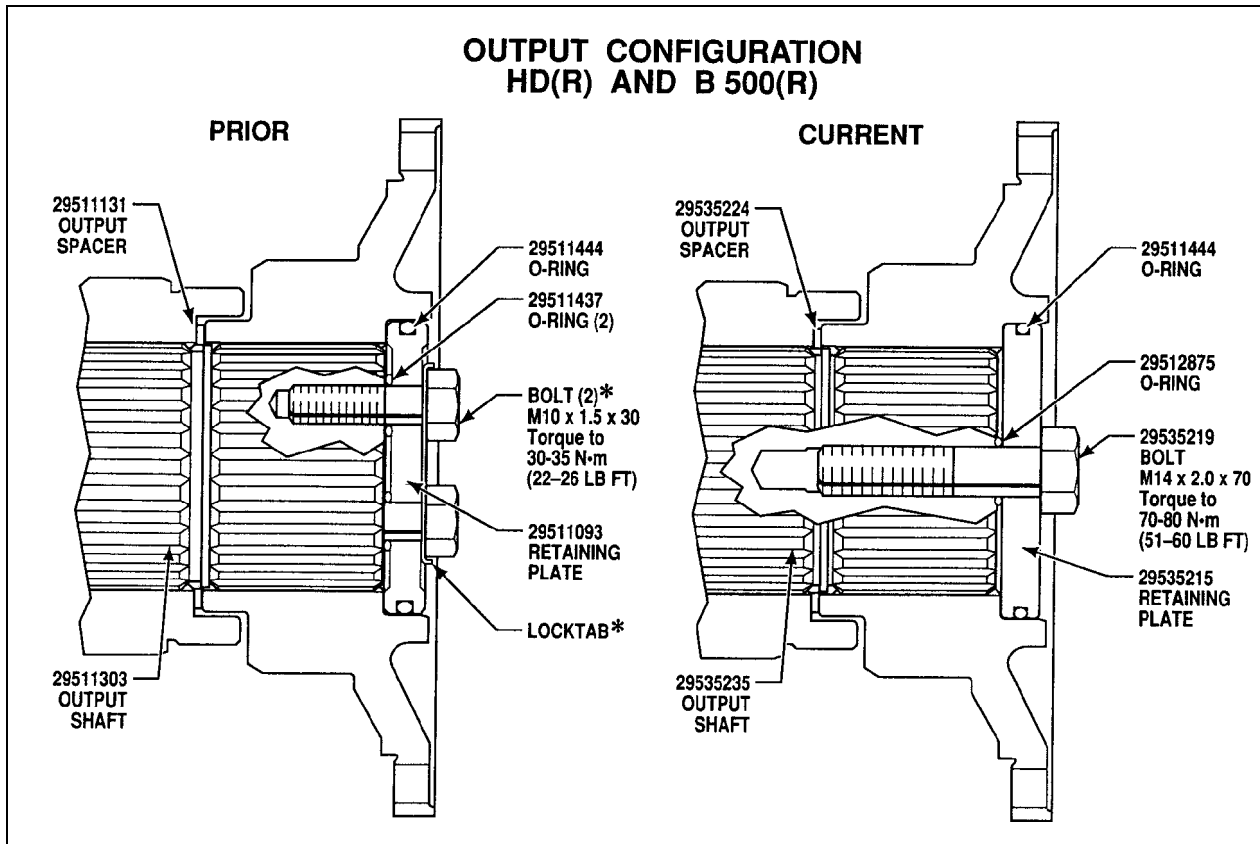

FIGURE 3
2. Check output shaft yoke retaining bolt(s) torque using a torque wrench. Refer to figure 3 for proper torque.
4. Check the torque of output shaft yoke retaining bolt(s). Proper torque depends on the design (one or two bolts). Refer to figure 3.
6. If during a transmission rebuilt the output shaft needs replacement, you must use the one bolt design hardware. The former design is no longer available. Refer to figure 3.